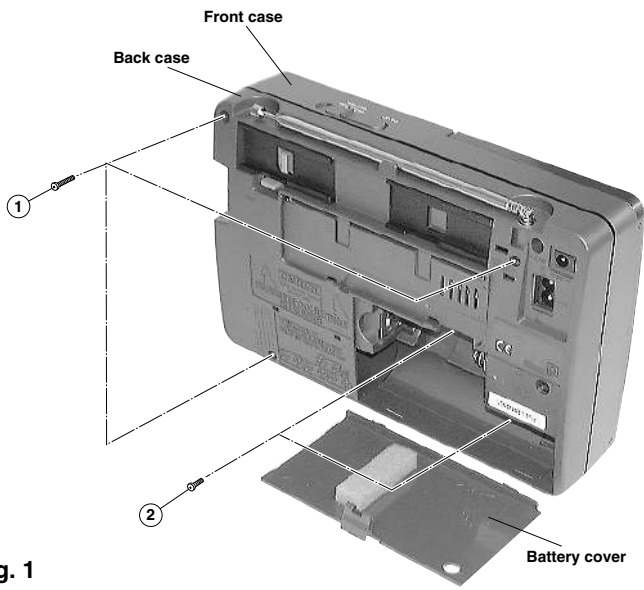

Fig. 1
1. Removal of Back Case (Fig. 1)
1. Feed in a weak signal from the Genescope. Adjust T202 for max. gain and the waveform of Fig. 1.